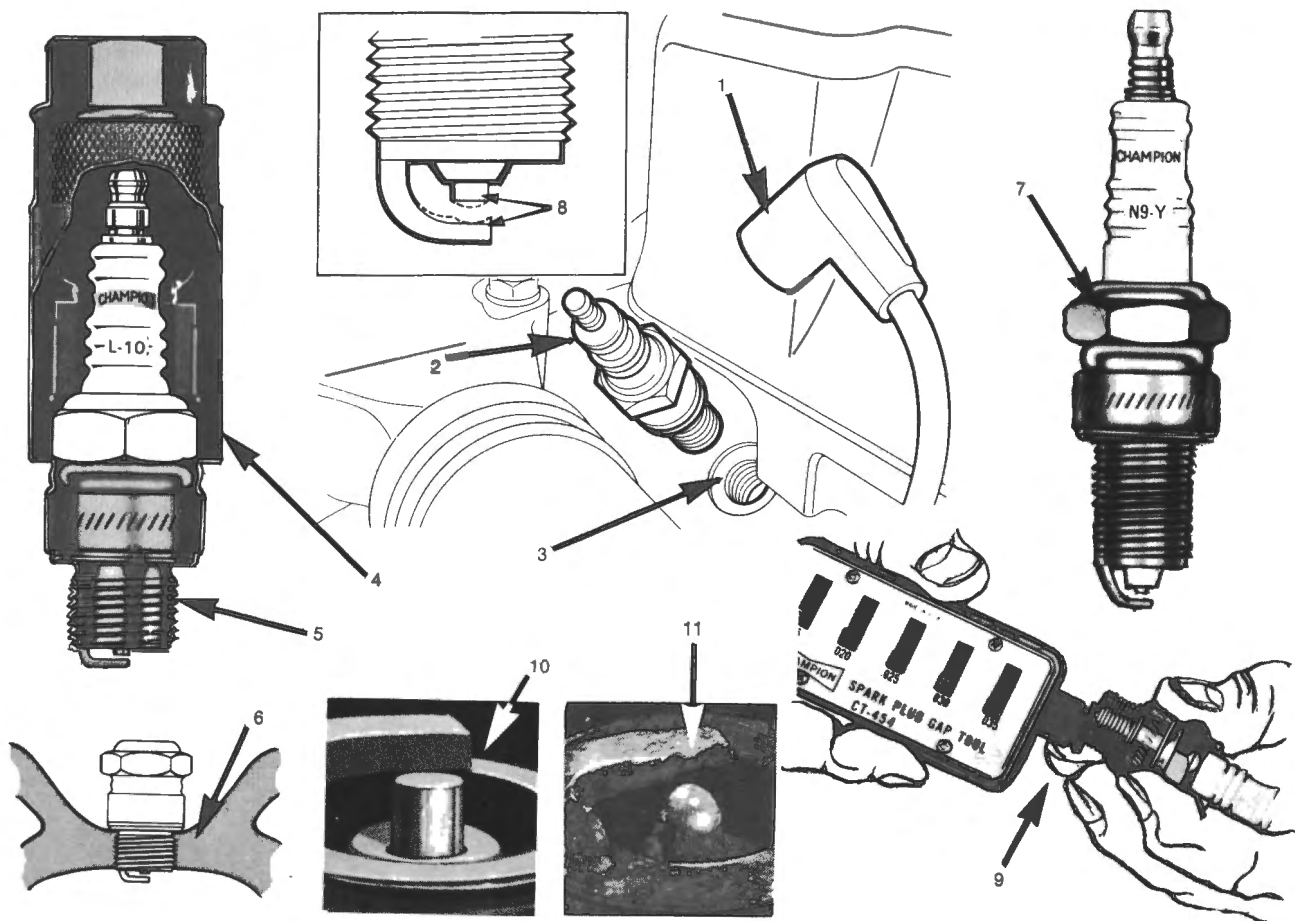

Fig. H-4
- 5 File the sparking surfaces of the electrodes with a points file until they are bright, clean and parallel. For best results hold the spark plug in a vice by clamping on the hexagon section. Do not apply any pressure on the centre electrode as insulator fracture may occur. Reset the spark plug gap with a Champion plug setting tool. Fig. H-4.